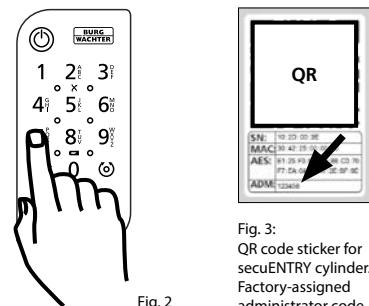

Fig. 2:
② Enter your administrator or user code and check that the cylinder is activated (Fig. 2).